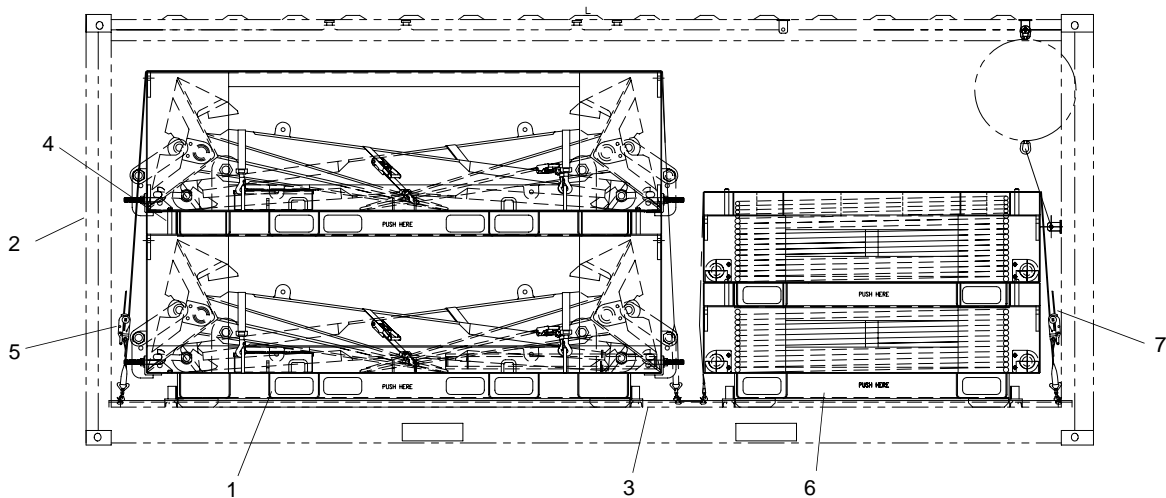
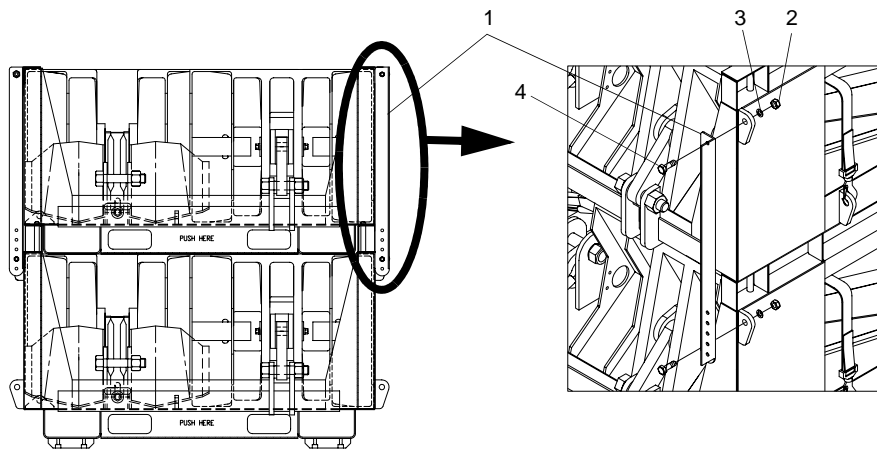

Figure 27. Offshore Anchor Container
Figure 28. Anchor Pallet Tie Bars
20. Using forklift, place lower anchor pallet (figure 27, item 1) in container (figure 27, item 2), against track stop (figure 27, item 3).
21. Using forklift, place upper anchor pallet (figure 27, item 4) on top of lower anchor pallet (figure 27, item 1).
22. Install four anchor pallet tie bars (figure 28, item 1) between upper anchor pallet (figure 27, item 4) and lower anchor pallet (figure 27, item 1) with nuts (figure 28, item 2), washers (figure 28, item 3) and bolts (figure 28, item 4) at each end of bars (figure 28, item 1). Tighten bolts (figure 28, item 4) and nuts (figure 28, item 2).
23. Install and tighten two anchor pallet tie down straps (figure 27, item 5).
24. Using forklift, place mooring cable pallets (figure 27, item 6) in container (figure 27, item 2).
25. Install and tighten two mooring cable pallet tie down straps (figure 27, item 7).